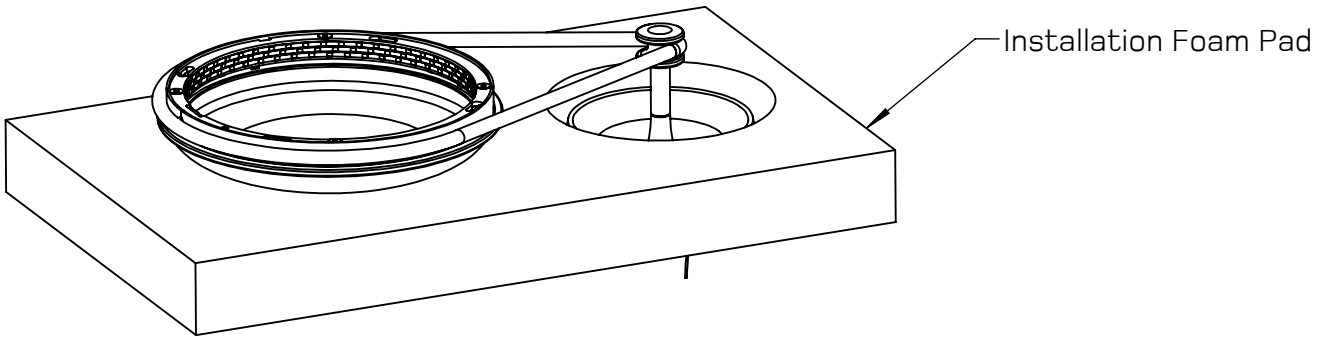

FIGURE A-1
4. Remove packaging from sconce fixture and place on installation foam pad with sconce back plate in cutout in the foam pad. See Figure A-1.